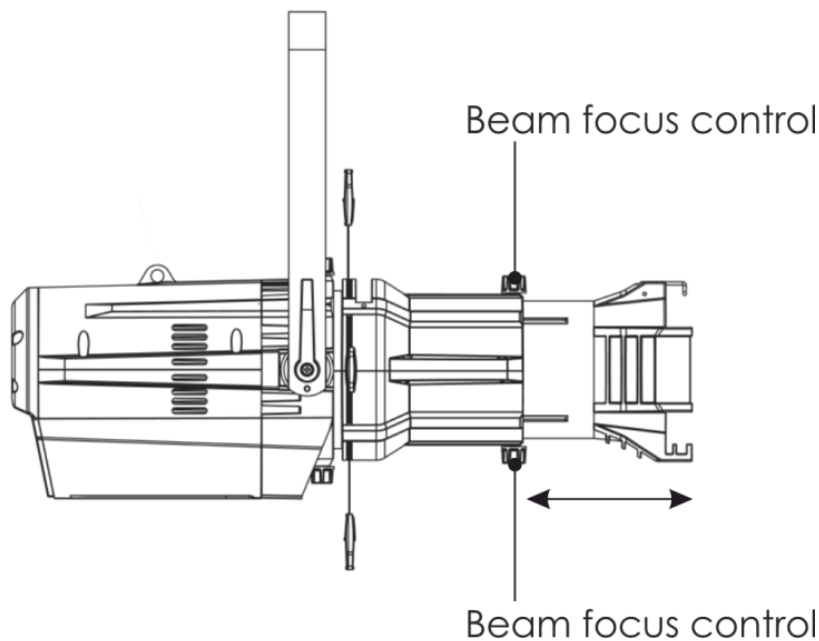

Fig. 05
01) Loosen the beam focus controls located under the barrel (Fig. 05).